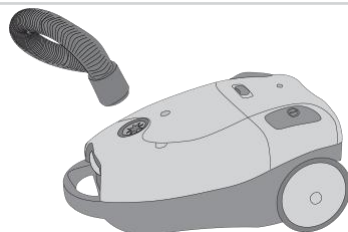

Figure 2 Fitting the hose to the vacuum cleaner
1. Fit the hose connector in the opening on the motor housing, see Figure 2. To remove the hose, press on the two release buttons on the side of the connector and pull the connector from the opening.